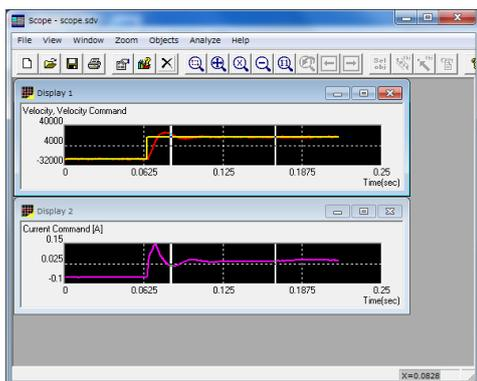

Fig. 6-2-28
5) When the velocity loop tuning completes, the following graph (Fig.6-2-28) is shown as a tuning result